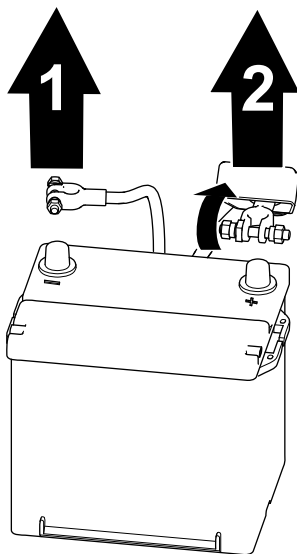

Figure 60
1. Remove the negative battery cable from the battery post (Figure 60).
2. Lift the insulator and remove the positive battery cable from the battery post (Figure 60).